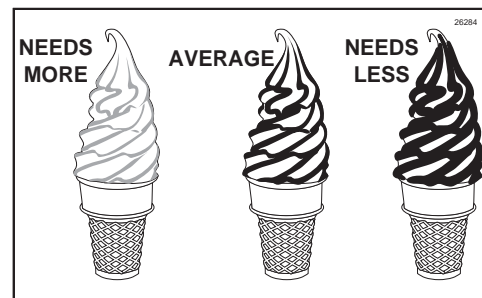

Figure 184
5. Draw a serving for each adjusted flavor to determine if the syrup concentration level is acceptable. Repeat this process for any flavors that need to be adjusted again. (See Figure 184.)